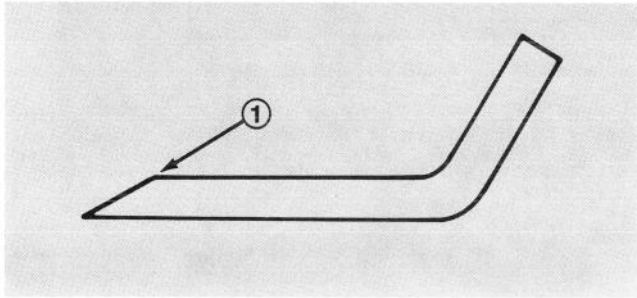

Figure 34
5. Using a file, sharpen cutting edge at both ends of the blade (Fig. 34).
**IMPORTANT:** Sharpen top side of blade and maintain original cutting angle (Fig. 34).